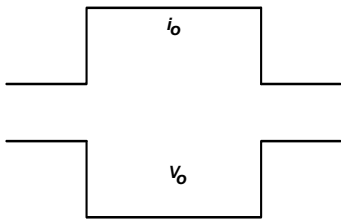
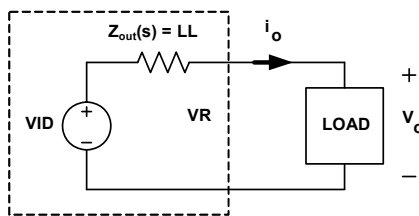

FIGURE 21. DESIRED LOAD TRANSIENT RESPONSE WAVEFORMS
FIGURE 27. VOLTAGE REGULATOR EQUIVALENT CIRCUIT
Assuming the compensator design is correct, Figure 21 shows the expected load transient response waveforms if C_n is correctly selected. When the load current I_{core} has a square change, the output voltage V_{core} also has a square response.
Figure 21 shows the desired load transient response waveforms. Figure 27 shows the equivalent circuit of a voltage regulator (VR) with the droop function. A VR is equivalent to a voltage source (= VID) and output impedance $Z_{\text{out}}(s)$. If $Z_{\text{out}}(s)$ is equal to the load-line slope LL, i.e., a constant output impedance, then in the entire frequency range, V_o will have a square response when I_o has a square change.